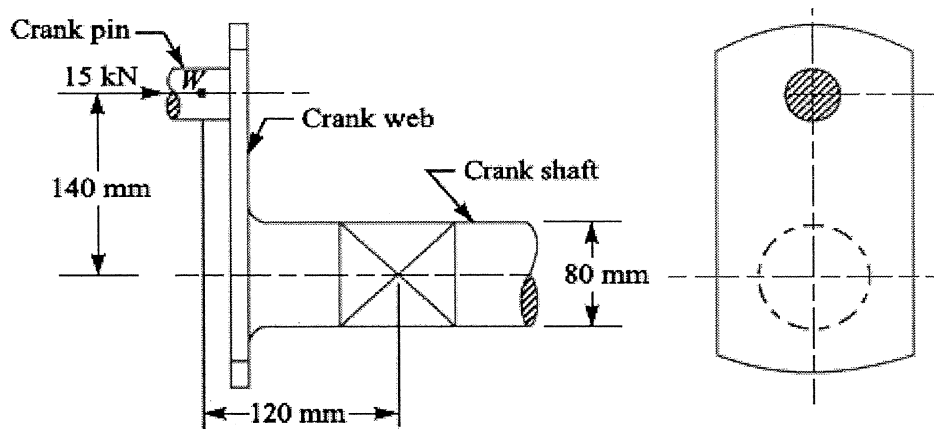

Figure Q5
- c. Figure Q5 shows an overhang crank with pin and shaft. Diameter of the crank is 80mm . A tangential load (W) of 15kN acts on the crank pin. The crank shaft axis and crank pin axis is situated 140mm apart. The centre of the crank shaft bearing is at 120mm to the point which the load applies.